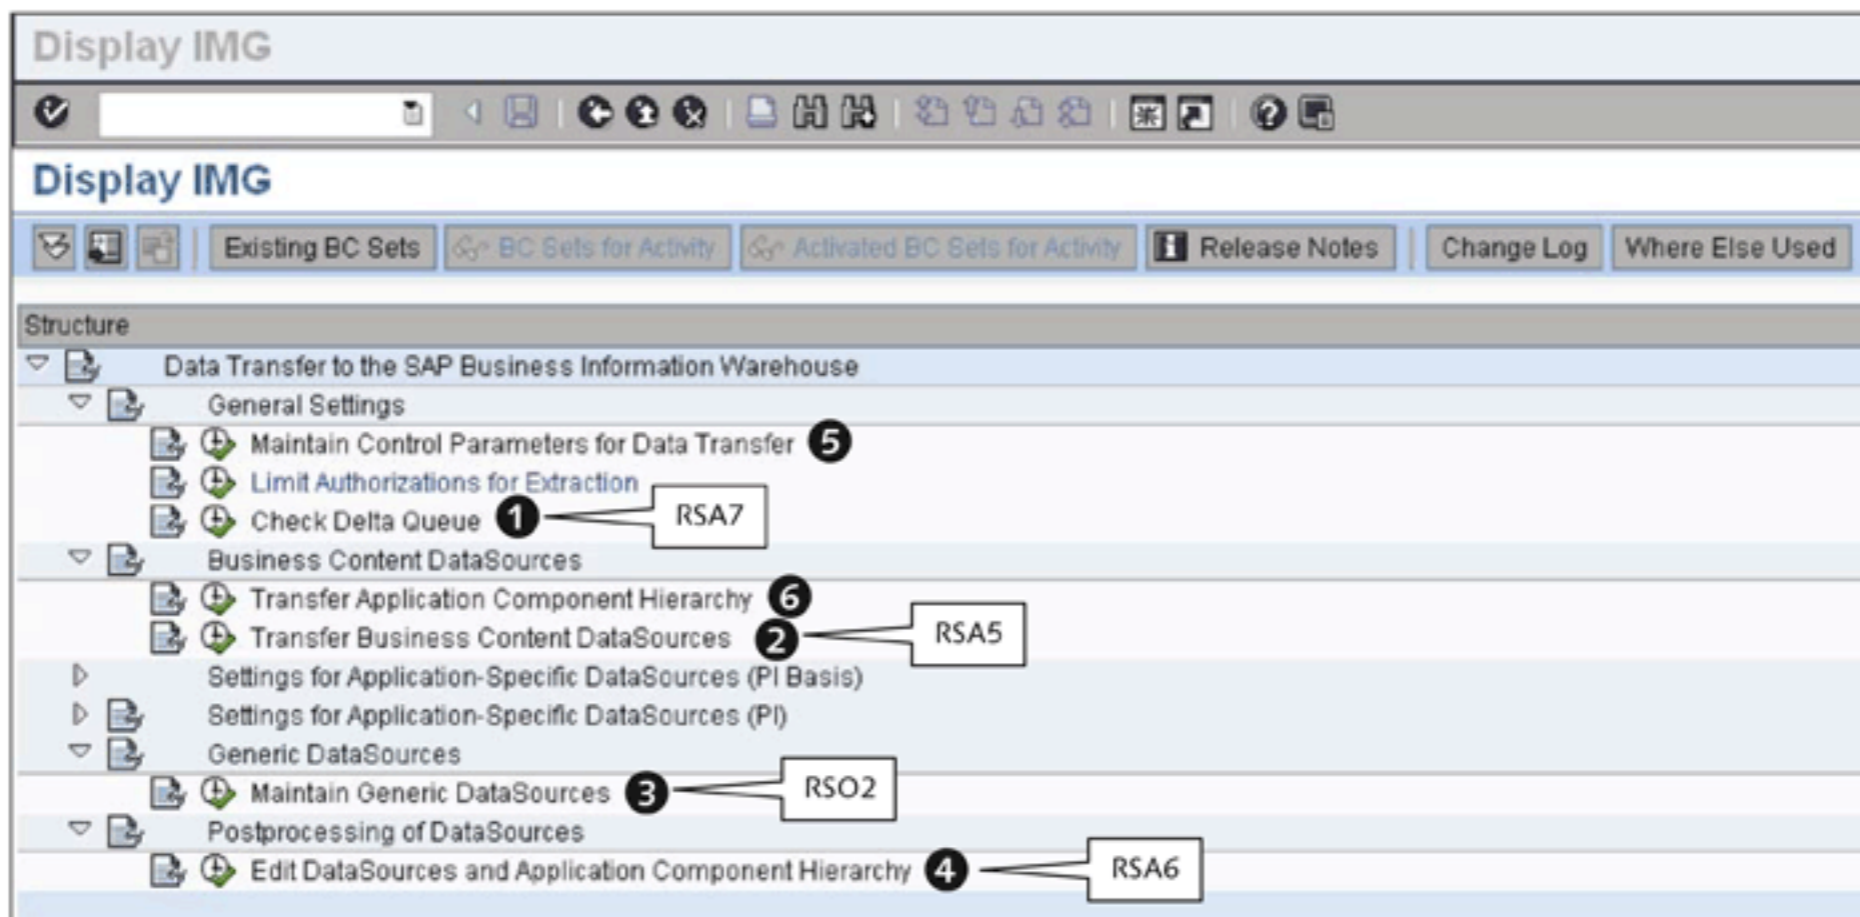

Figure 8.1 Settings in the SAP ERP Source System
To begin, select Transaction SBIW in the source system. The screen that appears is shown in Figure 8.1. This displays various settings and configuration options related to data extraction from SAP ERP to SAP NetWeaver BW. As shown in the figure, some of these settings can be directly called using a transaction code (e.g., Transaction RSA7 for CHECK DELTA QUEUE), while other settings can only be
SAP delivers a standard application component hierarchy, which can be activated by clicking on TRANSFER APPLICATION COMPONENT HIERARCHY (refer to ❹ of Figure 8.1).